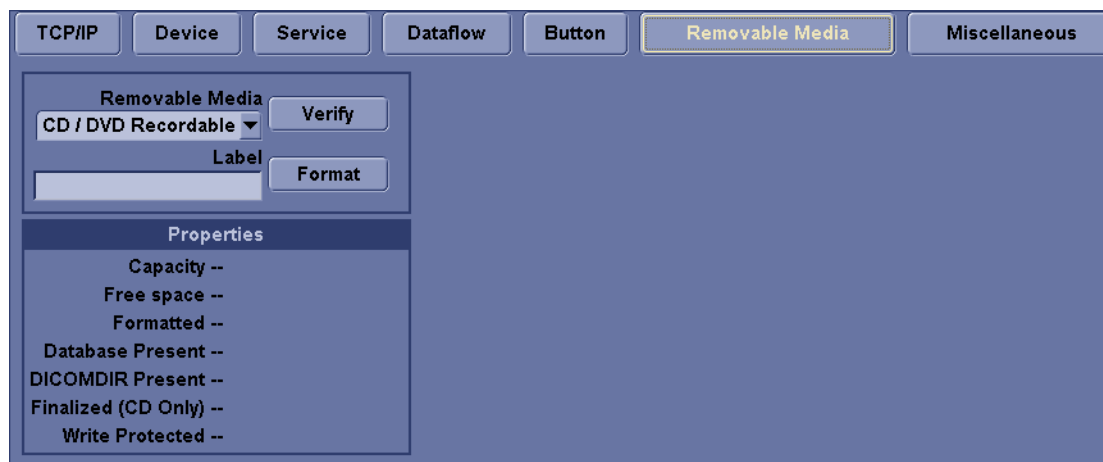

Figure 4-16 Format and Verify Media
- 4.) Enter the label for the media as shown in Figure 4-16. It is best to use all capital letters with no spaces or punctuation marks. Press Format.
- 6.) If desired, verify that the format was successful by returning to Utility->Connectivity->Removable Media and selecting VERIFY as shown in Figure 4-16.